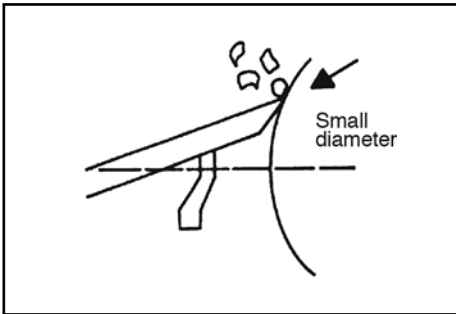

FIG. 21
With a small diameter workpiece, the tool rest should be closer to the surface workpiece than normal. As the workpiece gets smaller the rest should be repositioned (Fig.21).
10.6 POSITIONING THE TOOL REST FOR CIRCUMFERENCE SCRAPING – FIGS. 21 – 24